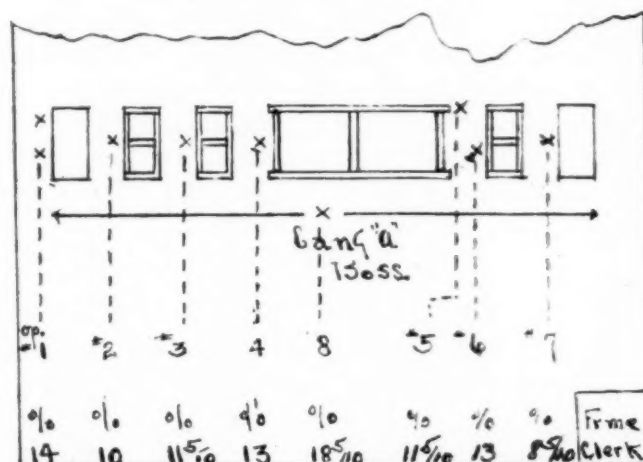

FIG. 2. SHOWING A SECTION OF A PLATING DEPARTMENT.
The gang tickets are a convenient size to file, having about fifteen to twenty spaces for items. See ticket below Fig. 2.
Fig. 2 shows section of plating department. (X) shows position of each operator; also shows number of operators on one gang ticket and the percentage of the total price each operator is entitled to.